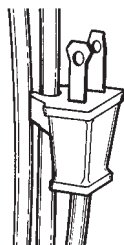

Figure 6b
4. Secure the plug to the cord so it doesn't unravel. The rubber grip built onto the plug will fit around the cord and keep it in place. (See Figure 6b.)